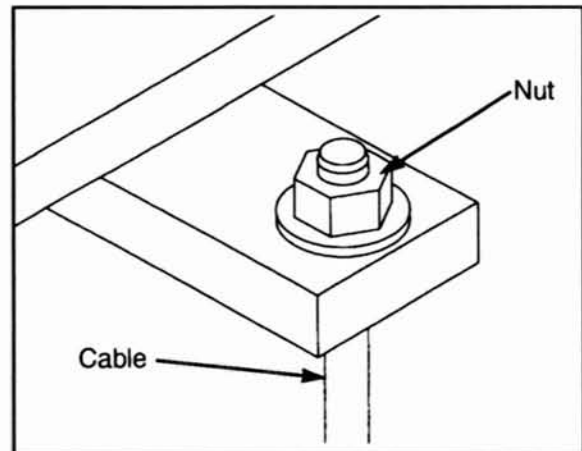

Figure 9
4. **Nylon Insert Nut Adjustment** - A single nylon insert nut at the cable or frame attachments used for alignment. See Figure 9.
1. Grip lower section of cable fitting with pliers and tighten adjustment nut clockwise with a 7/16" open end wrench. Make small incremental adjustments. See Figure 9.